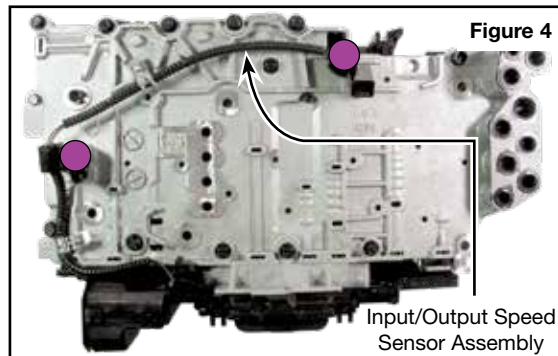

Figure 4
- Remove two bolts (8mm head) and input/output speed sensor assembly (**Figure 4**).